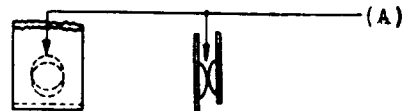

Fig. 4 - Contact Alignment
- 2.05 Contact Alignment - Fig. 4 (A) - Contacts shall not be out of alignment more than 1/3 of their base diameters. Gauge by eye.